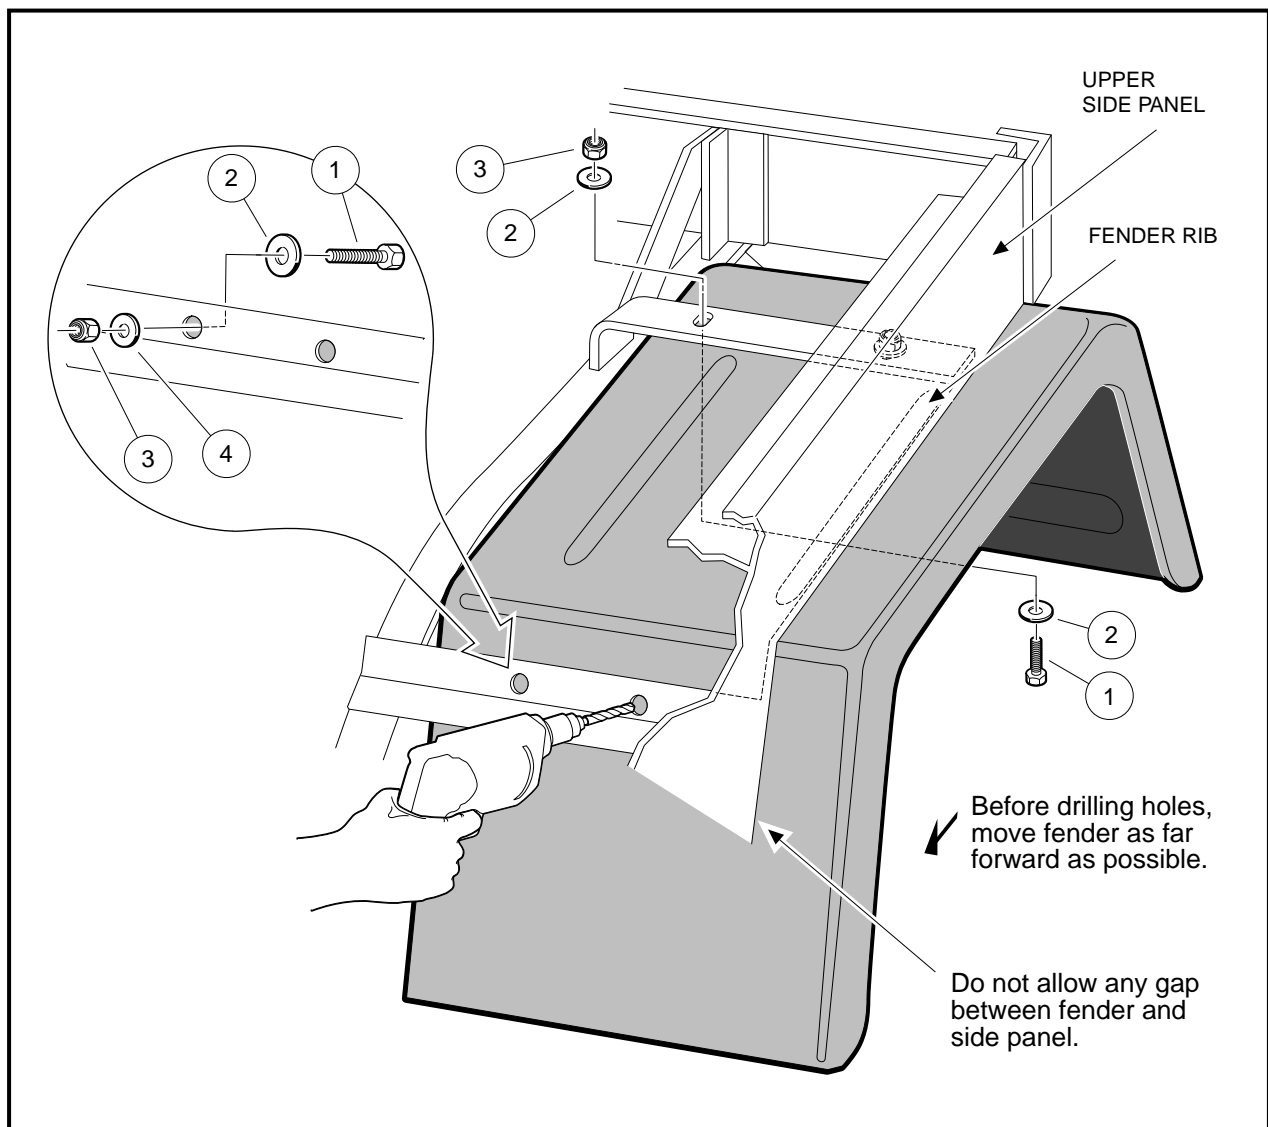

Figure 2 Drill Additional Mounting Holes
- 4.1. Make sure outer fender rib is flush with the inside surface of the upper side panel (**Figure 2**).
- 4.2. Move fender as far forward as possible. There should be no gap between the fender and side panel (**Figure 2**).
5. Drill three 5/16 inch holes through the fender using existing frame holes as guides (**Figure 2**).
6. Install bolt (1), large flat washers (2), and locknut (3) at top hole as shown (**Figure 2**). Tighten mounting hardware at both upper holes to 35 in-lb (4.0 N-m).
7. Install bolt (1), large flat washer (2), small flat washer (4) and locknut (3) in both forward-facing holes in frame and fender (**Figure 2**). Tighten to 35 in-lb (4.0 N-m).